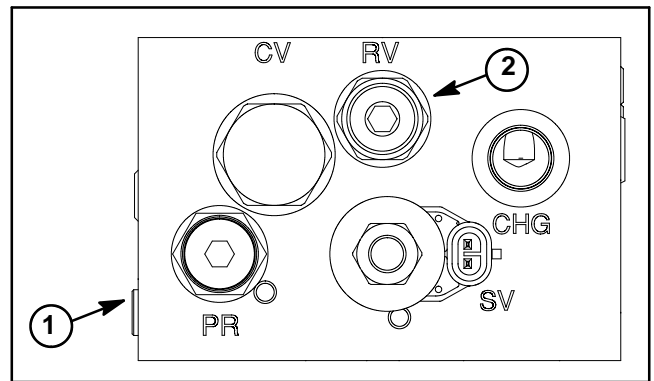

Figure 27
7. Relief valve (RV) is located on the lower, front side of the 4WD control manifold (Fig. 27). Adjustment of the relief valve can be performed as follows: